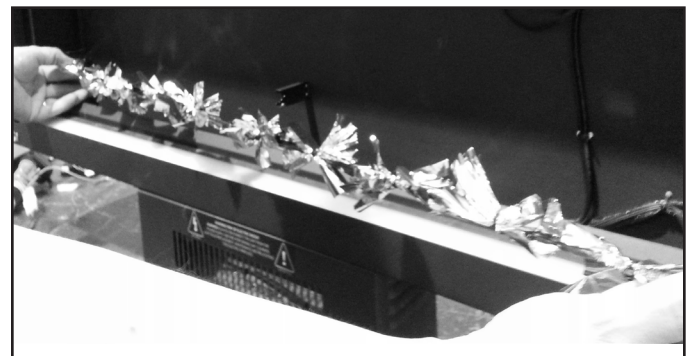

Figure 11 Remove Flame Rod
- Remove Flame Rod from appliance. See Figure 11.